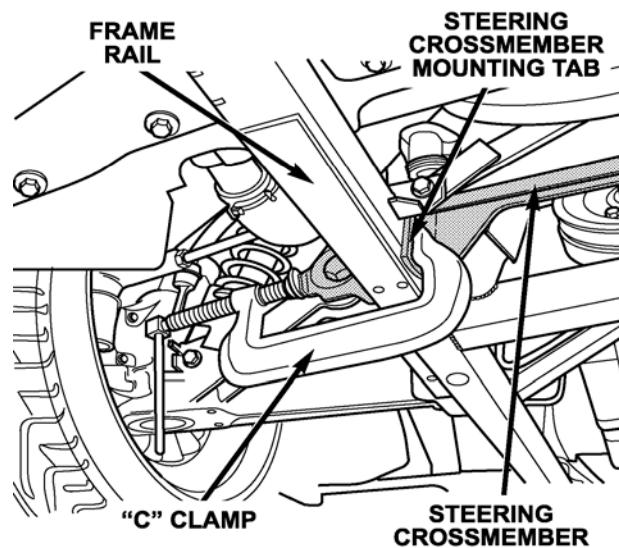

Figure 7 – Right Side Shown
14. Using “C” clamps, clamp the right and left side steering crossmember front tabs to the frame rails (Figure 7).